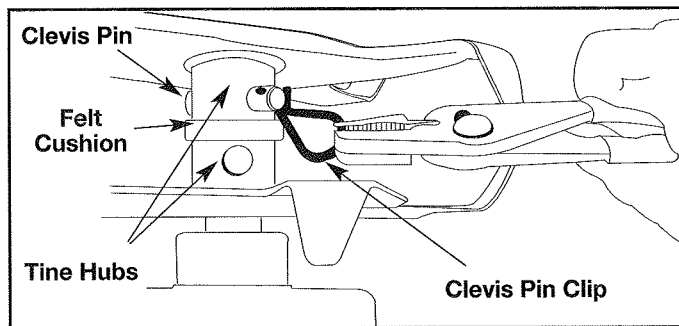

Fig. 21
1. Put the ignition switch in the STOP (O) position and disconnect the spark plug wire.
2. Remove the clevis pin clips and clevis pins (Fig. 21).